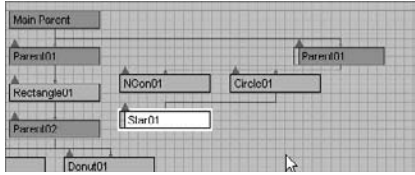

Figure 3.50
3. When you release the mouse button, notice that the Star01 node is linked under the Circle01 node, as shown in Figure 3.50. The Star has been automatically unlinked from its old parent.